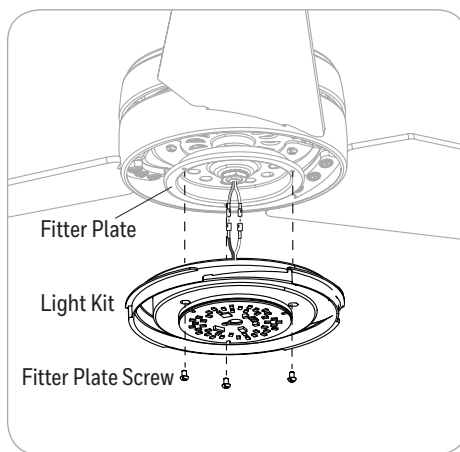

Figure 5.5
5. Remove one of the three fitter plate screws preassembled to the fitter plate and loosen the other two but do not remove. Connect the single-pin connector from the fitter plate to the single-pin connector from the light kit -- Blue to Black and White to White. Align the slotted holes in the light kit with the loosened screws in the fitter plate. Turn light kit clockwise and replace the previously removed fitter plate screw. Tighten all screws (Figure 5.5).